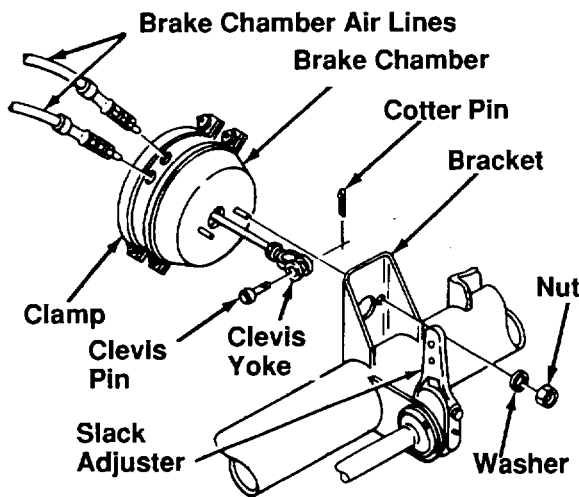
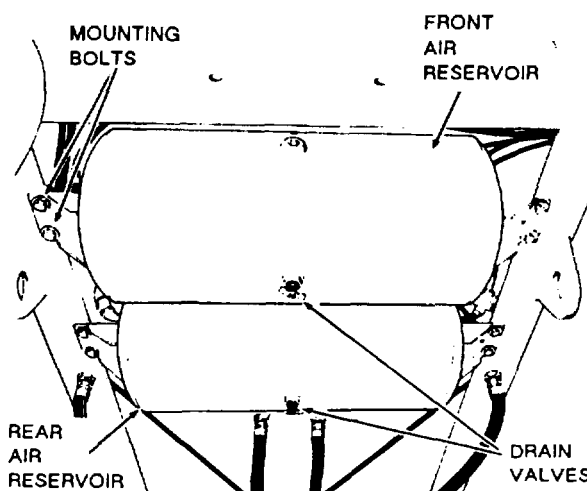
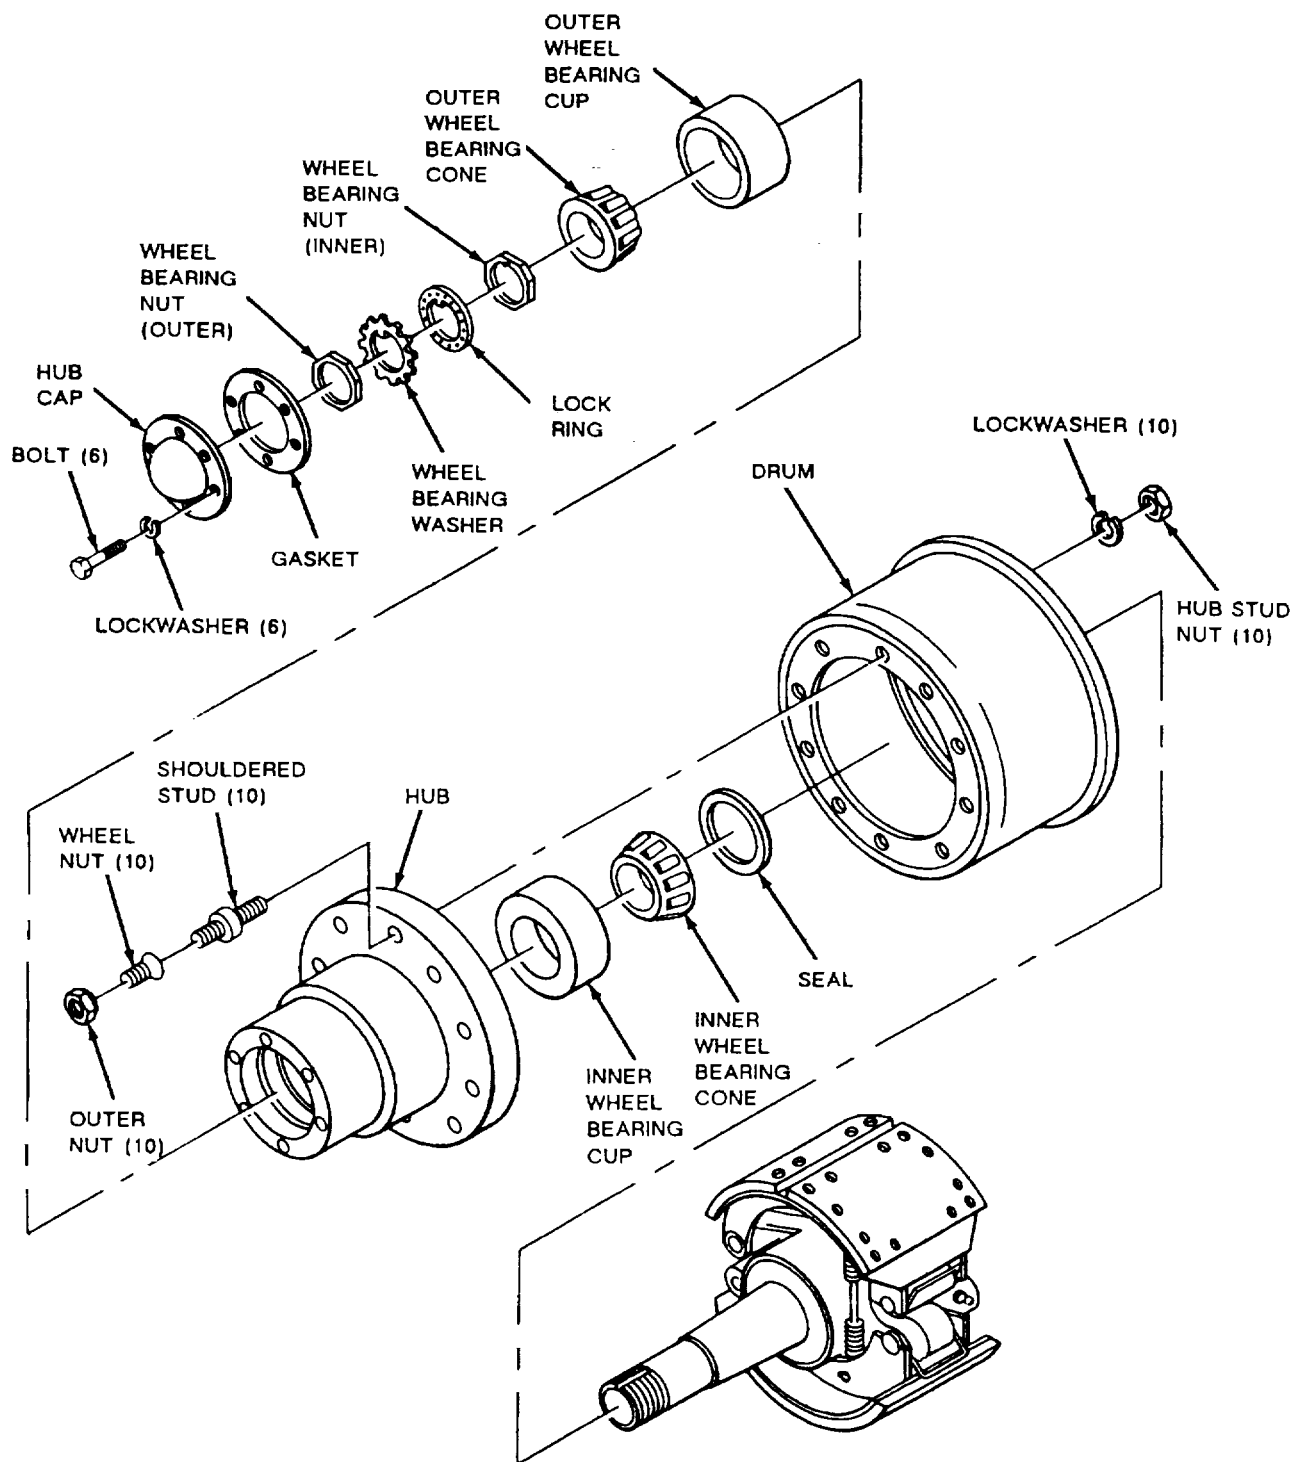

Figure 4-48. Removing and Installing Brake Chamber
Figure 4-54. Air Reservoirs.
Figure 4-60. Hub, Drum, and Wheel Bearings
4-42. Brake Air Chamber Test and Replacement of Brake Chamber, Fig. 4-48.
(2) Disconnect two brake hoses from brake chamber, fig. 4-48.
(3) Remove cotter pin and clevis pin securing clevis yoke to slack adjuster.
(4) Remove two nuts, two lockwashers securing brake chamber to bracket. Discard lockwashers.
(5) Remove brake chamber.
(1) Place brake chamber in position on bracket, fig. 4-48.
(2) Install two new lockwashers and two nuts to secure brake chamber to bracket.
(3) Check clevis yoke adjustment, para 4-41.
(4) Install clevis pin and cotter pin to secure yoke to slack adjuster.
(5) Connect two brake hoses to brake chamber.
(6) Close drain valves on air reservoirs, fig. 4-54.
(7) Pressurize air brake system and check for leaks.
(1) Block semitrailer wheels to prevent movement.
(2) Disconnect towing vehicle and / or air brake lines and open air drain valves on bottom of both reservoirs, fig. 4-54. Leave open while replacing valve.
(3) Tag air lines for identification at assembly. Disconnect hose and tube fittings from valve. Remove double check valve and unscrew valve from nipple in reservoir.
(4) Screw new valve into nipple. Install double check valve, and reconnect hose and tube fittings.
(5) Close air drain valves in both reservoirs. Connect towing vehicle and fill the reservoir.
(6) Test service brakes and parking brakes as described in part a.
(7) Remove blocking from semitrailer wheels.
4-47. Air Reservoirs, Fig. 4-54.
- (2) Manually compress fail-safe chamber power spring, para NO TAG
- (3) Release air pressure by opening drain valves on both air reservoirs, fig. 4-54.
- (4) Jack up axle until tires are clear of ground. Support axle with jack stand or blocking.
- (5) Remove six bolts and lockwashers securing hub cap to hub, fig. 4-60. Remove hub cap and hub cap basket. Discard gasket.
- (6) Remove outer wheel bearing nut, wheel bearing washer, lock ring, and inner wheel bearing nut.
- (7) Place wheel lift jack under wheel and raise jack until weight is removed from bearing.
- (8) Remove outer wheel bearing cone.
- (9) Remove tires, wheels, hub and drum as an assembly.
c. *Replacement of Wheel Bearings, Fig 4-60.*
- (1) *Removal.*